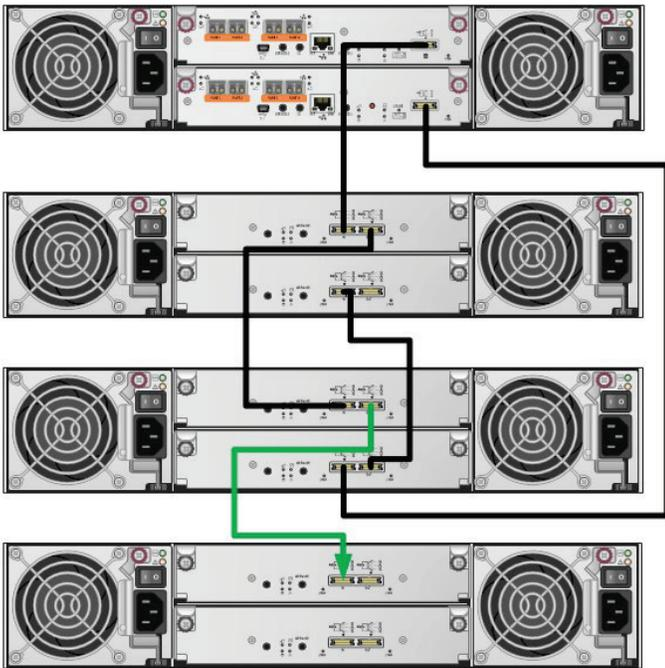

Figure 34. Adding new SAS cable to extend a channel to the additional shelf
4. Connect the new SAS cable (**Figure 34 green** cable) from the A port **Out** of the current HPE MSA Storage System to the A port **In** of the new Disk Enclosure.